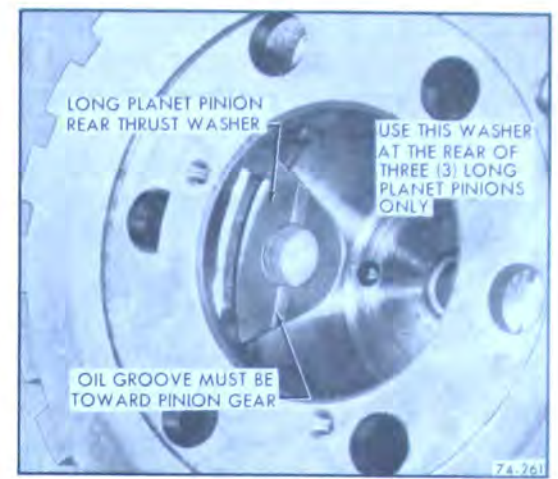

Figure 74-261
2. Start with the long planet pinion gears first. Install the long planet pinion rear thrust washer. Oil groove must be toward pinion gear. Retain thrust washer with petroleum jelly. See Figure 74-261.